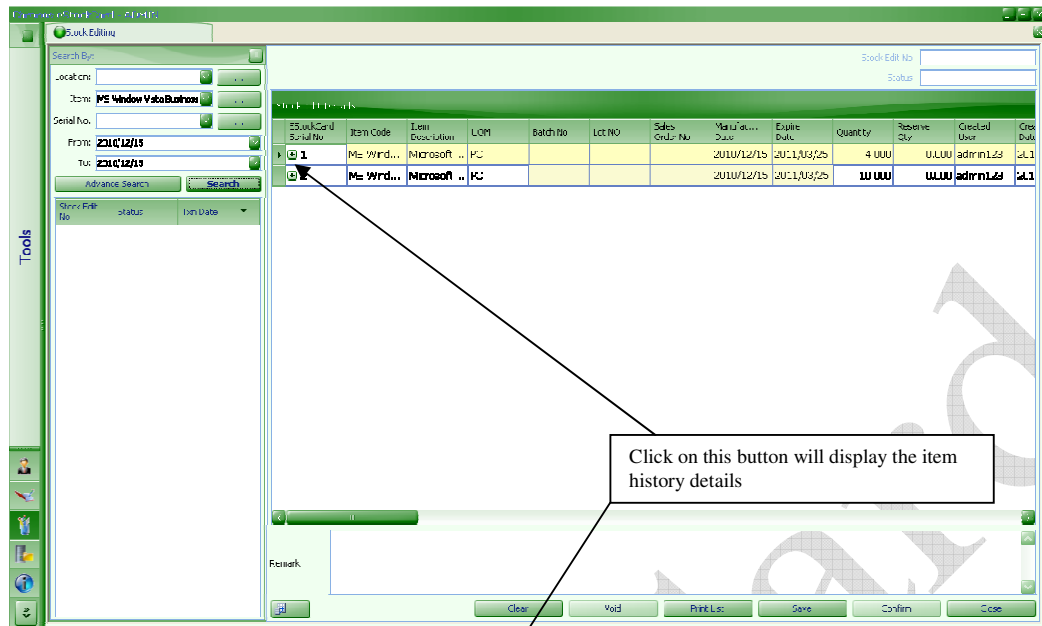
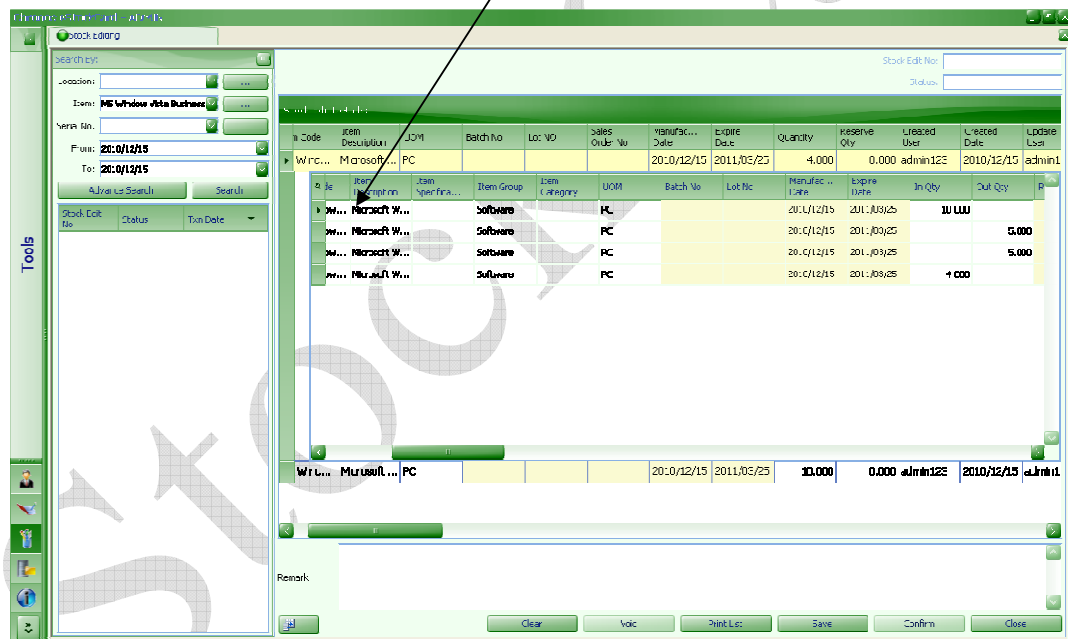
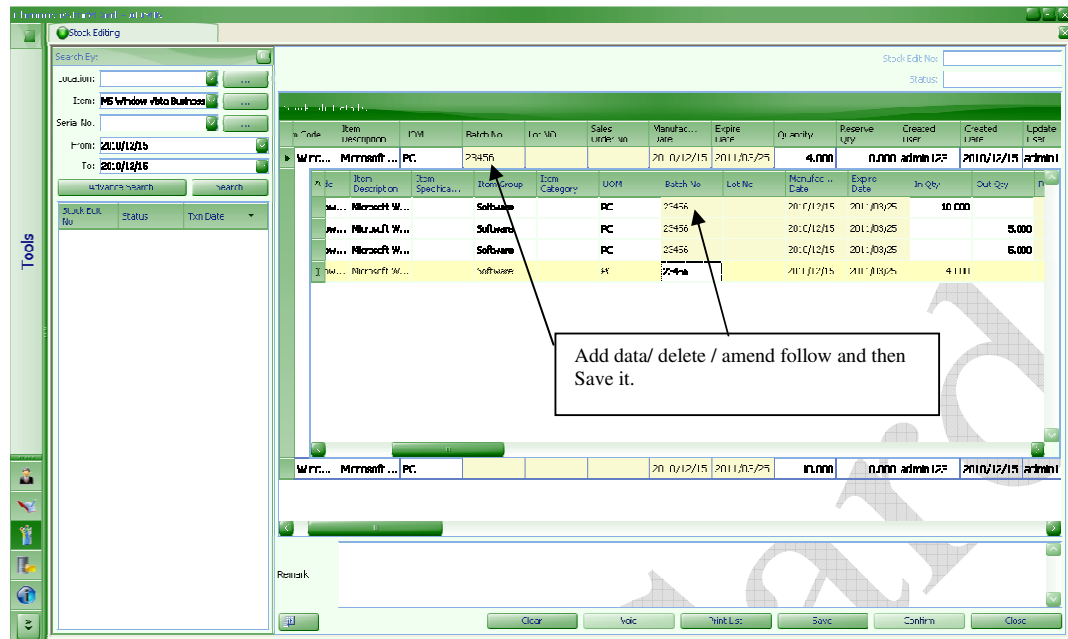
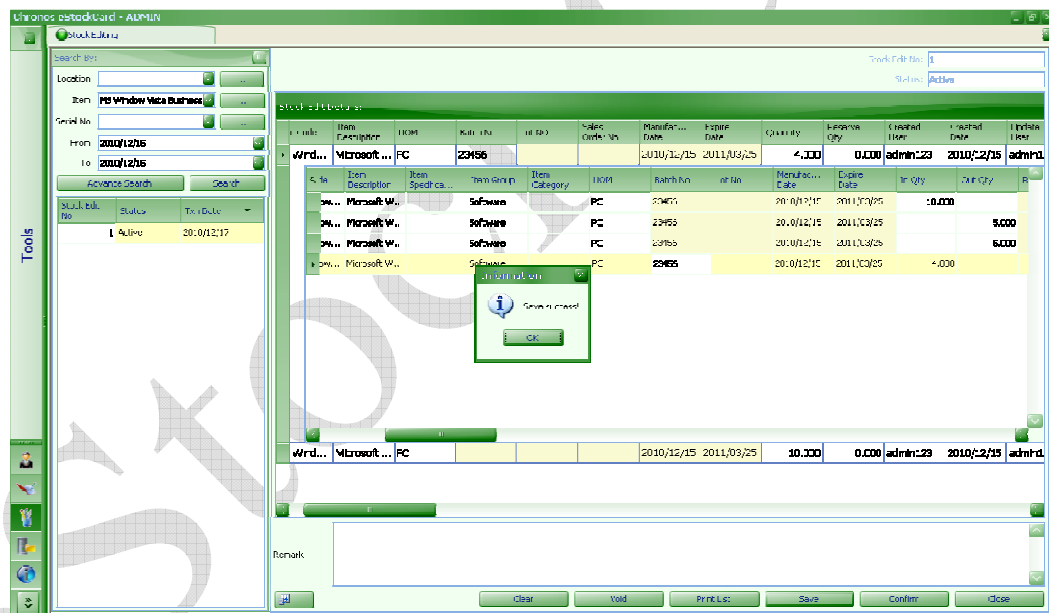

Fig. 84
Fig. 85
Fig. 86
Fig. 87
- The column info details highlighted in yellow color can be change or add. Just enter/delete / amend the data and then click save. (Fig. 84, Fig. 85, Fig 86 & Fig 87)